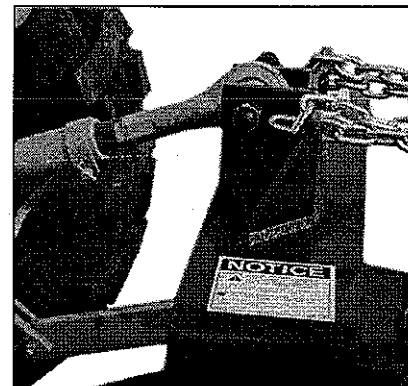

figure 3
7. Connect the tractor topline arm to the top of the mounting assembly (figure 3). Secure with a pin.